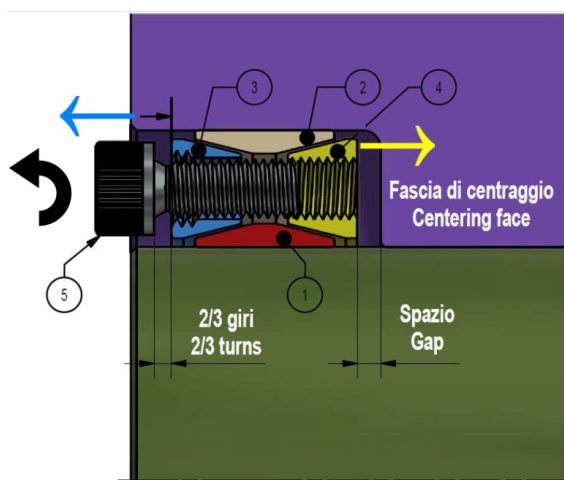

Fig. 2
2. For ease of installation, thrust rings shall be disengaged (fig. 2) by loosening all screws by two/three turns.
3. Insert Locking Assembly into the hub bore and make it slide onto the shaft, making sure that connected components are positioned as required. Inner and outer rings shall be completely supported by shaft respectively hub bore (fig. 2). Installation into hubs with shoulder requires a few mm's gap between rear thrust ring and shoulder (fig. 2).